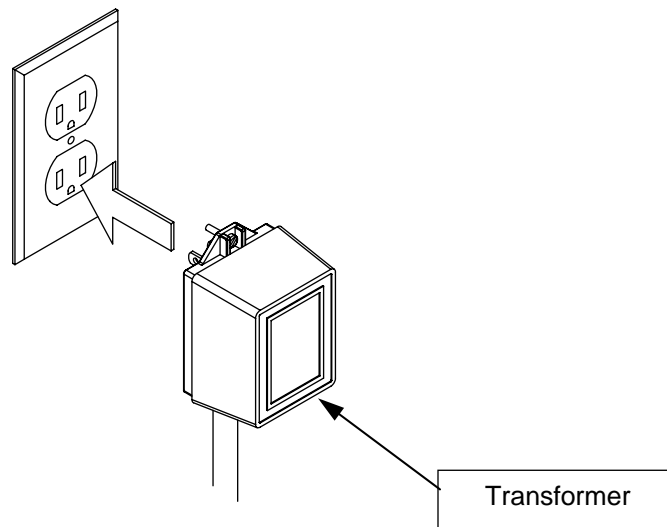

Figure 35
Step 7: Plug in the water heater and transformer to power the Setback Control. This is shown in Figure 35.